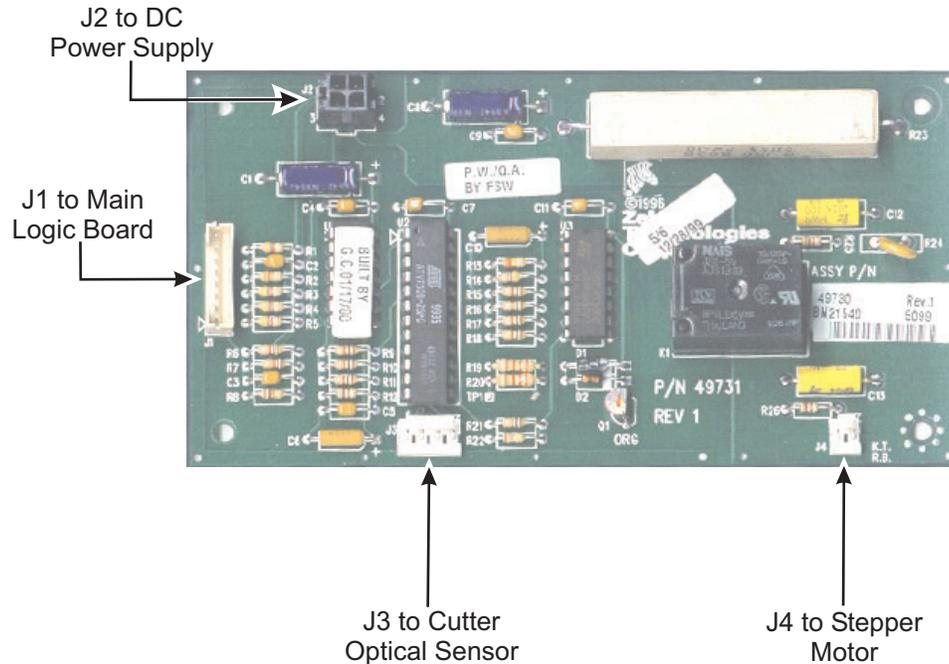

Figure 6-37. Cutter Option Circuit Board
1. Refer to Figure. 6-37. Attach the power cable (#3) to J2 on the cutter circuit board.
14. Refer to Figure. 6-37. Plug the cutter sensor leads into the cutter Opto connector J3 on the cutter circuit board.